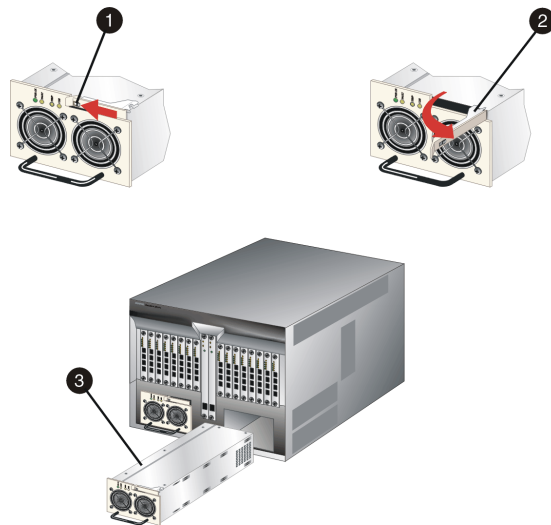

Figure 4-8: Redundant Power Supply Removal and Replacement
5. Push the locking pin to the left (❶) to release the cam lever at the top of the power supply (Figure 4-8).
6. Pull the cam lever out and to the right (❷) to cam the power supply out of the Director chassis.
3. Orient the power supply as shown in Figure 4-8 with the cam lever disengaged and pulled out.